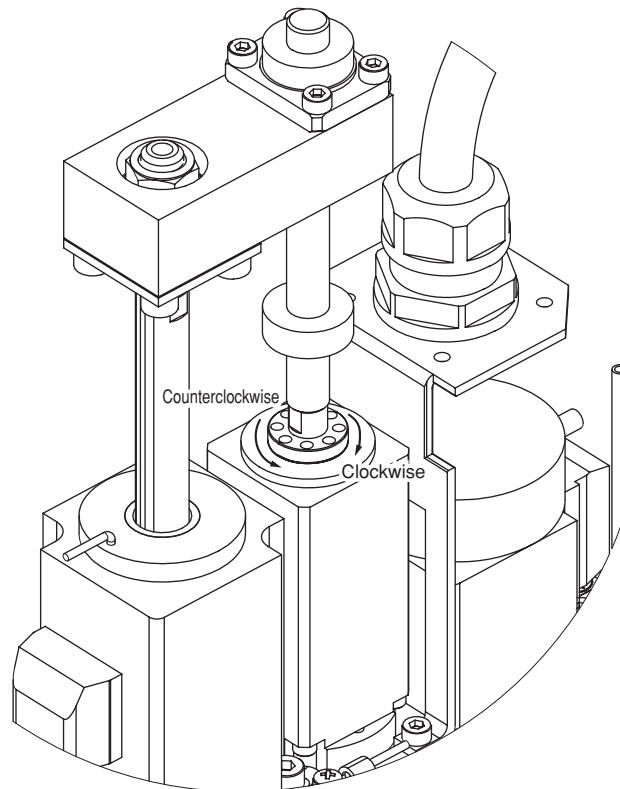

Fig. 4-17
- 10) Rotate the flange with respect to the motor shaft. (See Fig. 4-17.)